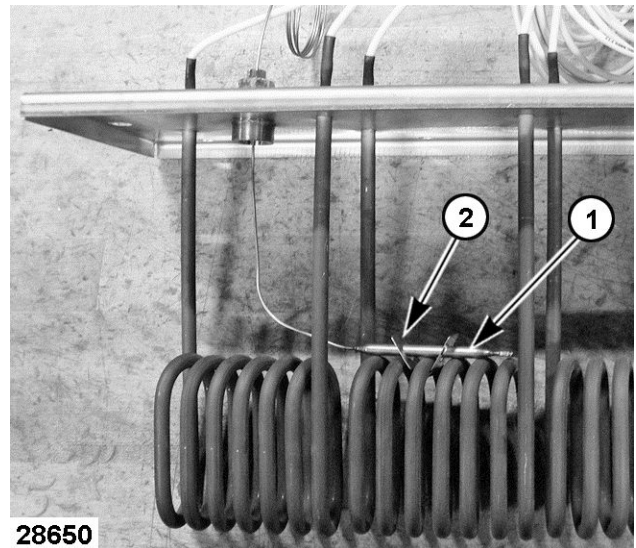

Fig. 37
- B. Position capillary bulb [1] Fig. 37 at the second bank of heating elements then secure the bulb to heating element using spring clamp [2] Fig. 37. Position bulb so that it is centered across heating elements.